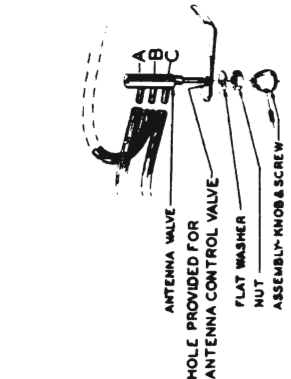

FIG 3
3. ASSEMBLE ALL THREE HOSES TO THE ANTENNA VALVE. INSTALL ON LOWER FLANGE OF INSTRUMENT PANEL. (FIG 3)